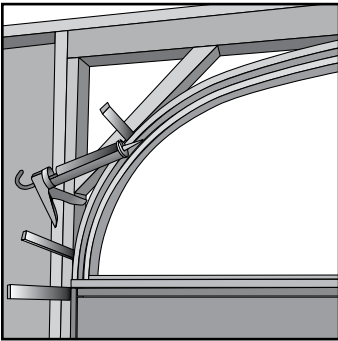

Fig. 39
- I. Apply a bead of caulk along the inside corner of the rabbeted transom jamb (**Fig. 39**).